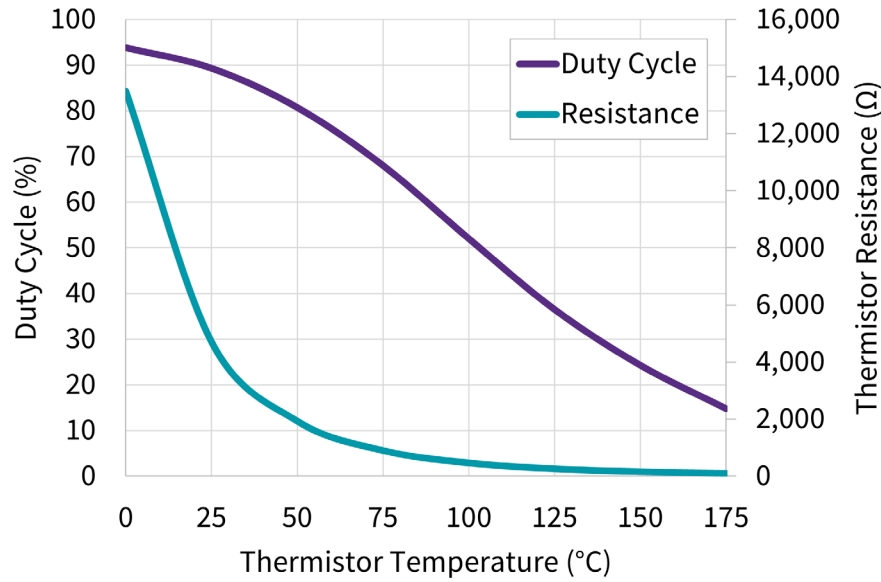

Figure 26: Relationship between thermistor temperature, thermistor resistance, and output duty cycle
The temperature to duty cycle relationship of the thermistor is shown in Figure 26 and the corresponding numerical values are shown in Table 11. The duty cycle-encoded signal is transmitted at 50 kHz. On the controller side, the duty cycle-encoded signal can be interpreted by directly measuring the duty cycle using edge detection or the signal can be converted to an analog signal with a simple resistor-capacitor (RC) circuit. If using the analog approach, the RC circuit should have a long enough time constant to maintain a stable signal and then it can be measured with an analog-to-digital converter (ADC). The temperature reported by the thermistor differs largely from the junction temperature of the SiC MOSFETs and should not be used as an accurate junction temperature measurement (see PRD-08376).